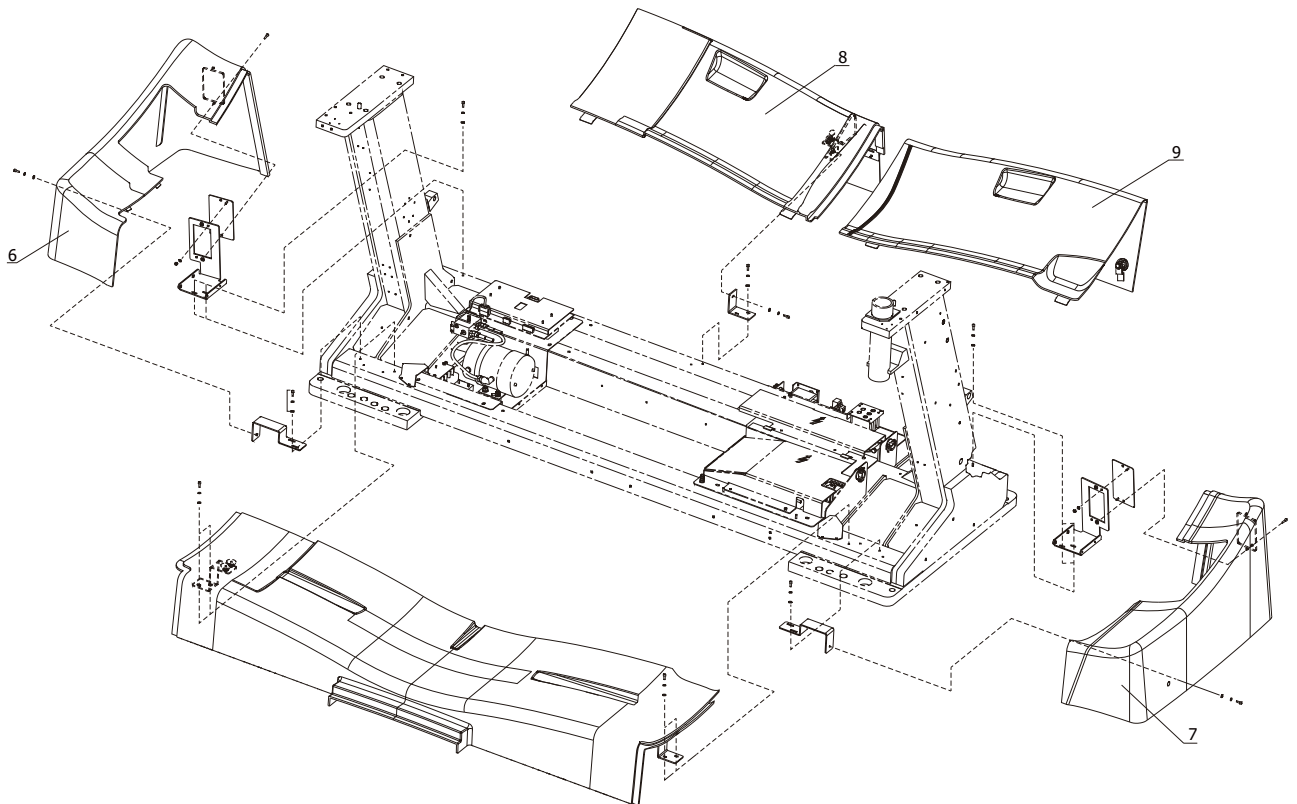

Figure 2-1 Gantry Base Covers
- 5.) Remove both left and right Gantry side base covers (items 6 & 7, respectively, in Figure 2-1) and then both rear base covers (items 8 & 9, in Figure 2-1).